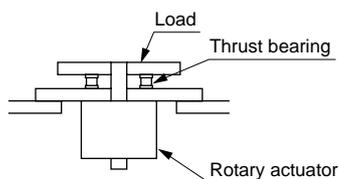

Fig.1
- If axial load (thrust) on the shaft exceeds the tolerable value, operation faults could occur. If such a load is unavoidable, use a structure with thrust bearing as shown in Fig. 1.
- (1) First loosen the hexagon nut as shown in Fig. 1.